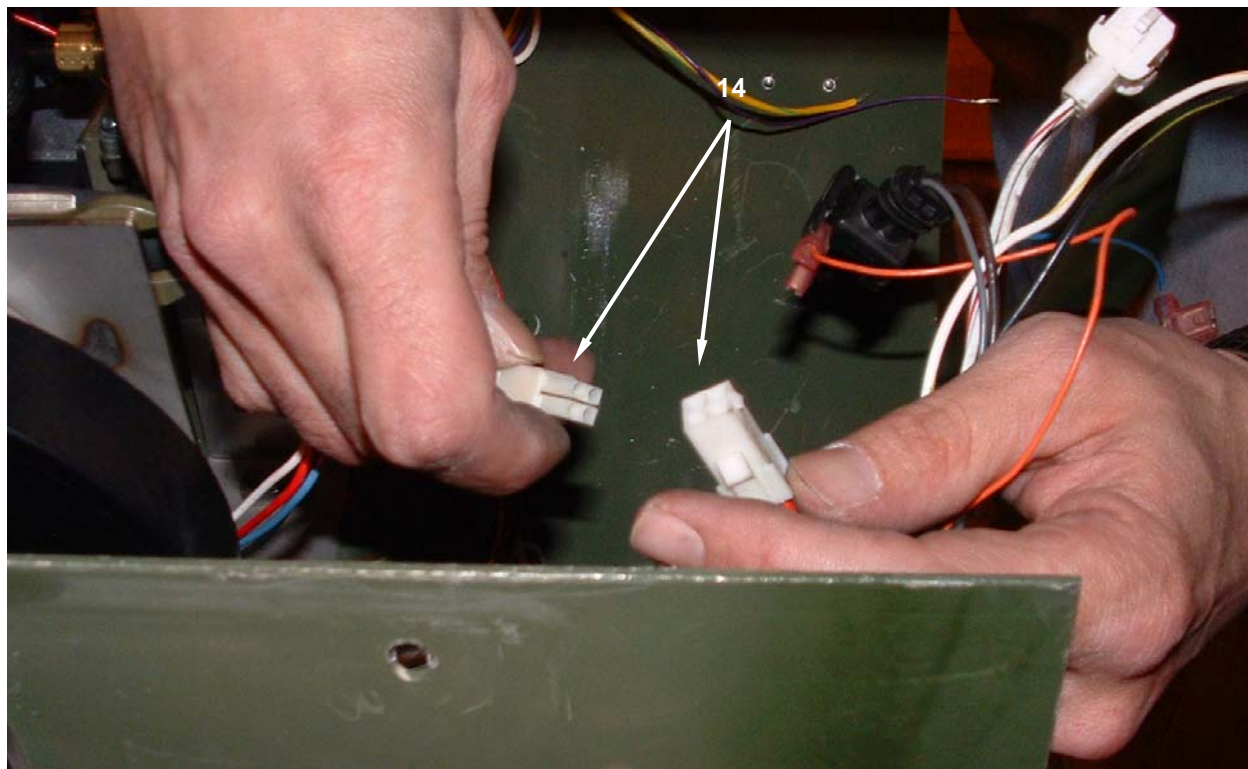

Figure 9. Replace the Electronic Box Assembly, Complete With Wire Harness – Reconnect Remaining Wiring.
20. Reconnect all remaining wiring connections (**Figure 9, Item 14**) as tagged.